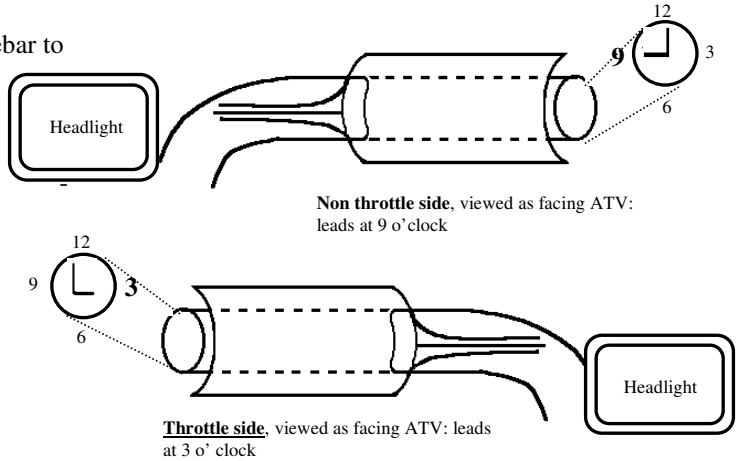

Figure 1 Hand warmer positioning, viewed as facing ATV
2. Non throttle side hand warmer: Peel release paper from back of hand warmer and position (non throttle side) heater with wire leads at 9 o'clock position (Fig. 1). Remove air pockets by pressing with thumb and moving toward edge.
3. Throttle side hand warmer: Peel release paper from back of hand warmer and position heater with wire leads at 3 o'clock position (Fig. 1).